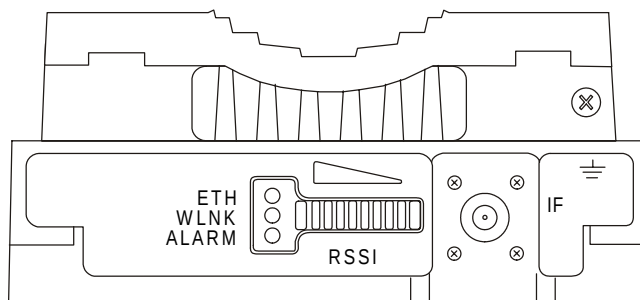

Figure 4-1. SU-RA/RE Outdoor Unit Bottom Panel
The Ground terminal (marked $\oplus$) and the IF cable connector (marked IF) are located on the bottom panel of the SU-RA Outdoor unit, shown in Figure 4-1.
3. The RSSI bar display is located on the bottom panel of the Outdoor unit (refer to Figure 4-1). The 8 green RSSI LEDs are used for reading the Received Signal Strength Indication. The higher the number of green LEDs that are ON, the higher the level of the received signal. Rotate the antenna left and/or right until you reach the point of maximum RSSI reading. Make sure that at all times, the front of the antenna faces the general direction of the base station.
To verify correct operation, view the LED indicators located on the bottom panel of the Outdoor unit as shown in Figure 4-1 on page 17.